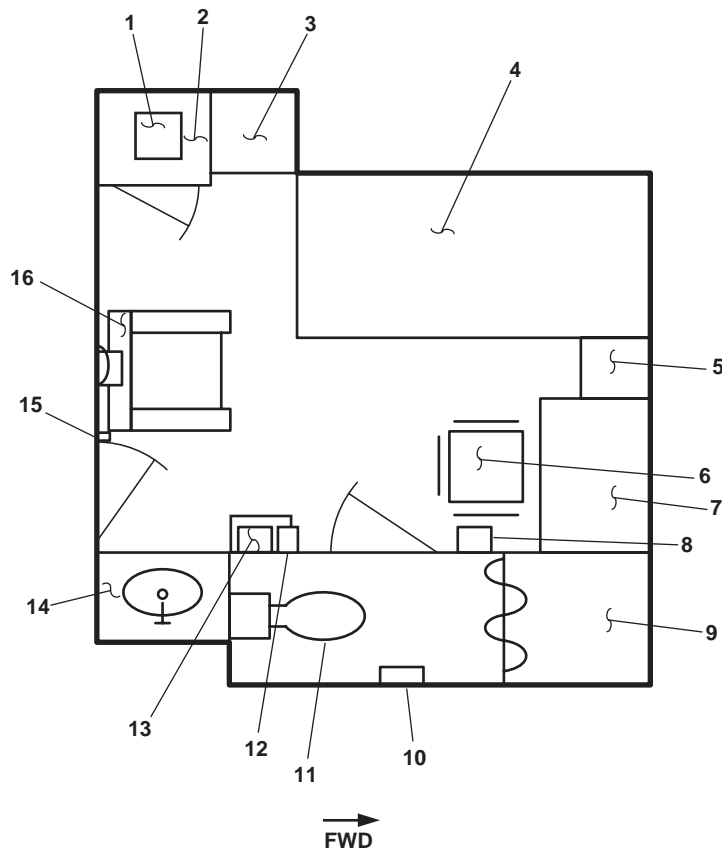

Figure 5. Chief Engineer's Stateroom
1. Refrigerator (figure 5, item 1). The refrigerator provides cold storage for perishable items.
2. File cabinet (figure 5, item 2). The file cabinet with a combination lock provides secure storage for personal items.
3. Safe (figure 5, item 3). The safe provides a secure storage space.
4. Bunk (figure 5, item 4). The bunk provides sleeping arrangements for the chief engineer.
5. Night table (figure 5, item 5). The night table provides storage for miscellaneous items.
6. Chair (figure 5, item 6). The chair provides a place to sit.
7. Chest/desk combo (figure 5, item 7). The chest/desk combo provides storage space and a desktop for reading or writing.
8. Key cabinet (figure 5, item 8). The key cabinet stores keys to gain access to various areas of the vessel.
9. Shower (figure 5, item 9). The shower is provided for the chief engineer.
10. Convection heater (figure 5, item 10). The convection heater supplies supplemental heat to the sanitary space.
11. Water closet (figure 5, item 11). This is the commode for the sanitary space.
12. Intercom and sound powered telephone (figure 5, item 12). The intercom and sound powered telephone provide communication throughout the vessel.
13. Life jacket stowage (figure 5, item 13). The life jacket stowage provides storage for one life jacket.
14. Sink (figure 5, item 14). The sink provides hot and cold potable water for personal hygiene.
15. Thermostat (figure 5, item 15). The thermostat provides temperature control in the stateroom.
16. Reclining lounge chair (figure 5, item 16). This chair is provided for added comfort.